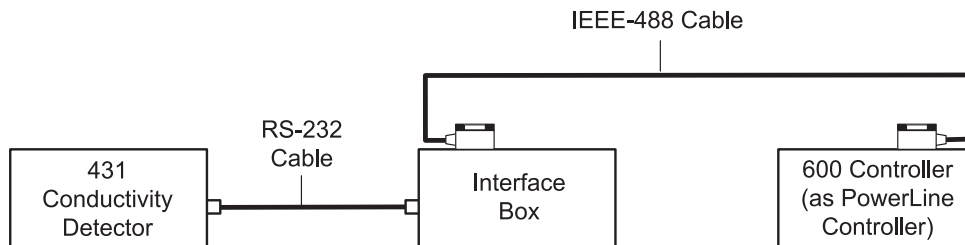

Figure 3-6 PowerLine 431 Connections
1. Connect the IEEE-488 cable (stackable connector for daisy-chaining additional instruments) from the 600 controller to the IEEE-488 connector on the interface box (Figure 3-6).